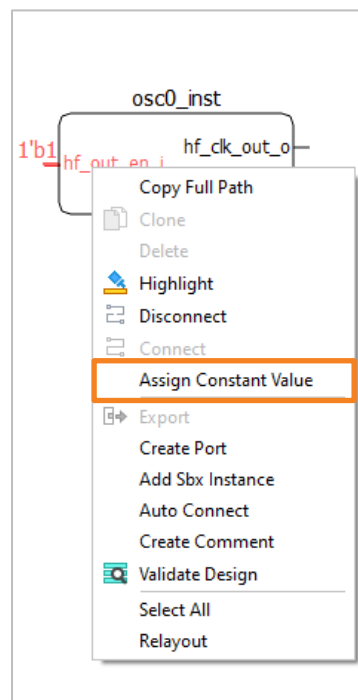

Figure 2.97. Right-click Menu of an Input Pin
1. Select the desired pin and right-click the pin. Choose **Assign Constant Value** (Figure 2.97).